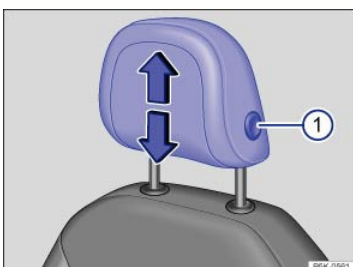
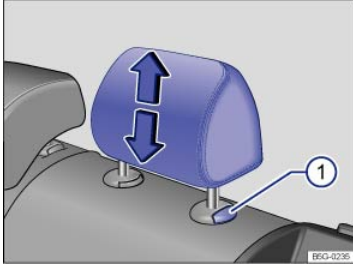

Fig. 44 Adjusting the front head restraints.
Fig. 45 Adjusting the rear head restraints.
- Pull the head restraint up in the direction of the arrow, or push it down while pressing the button ⇒ Fig. 44① or ⇒ Fig. 45① ⇒ .